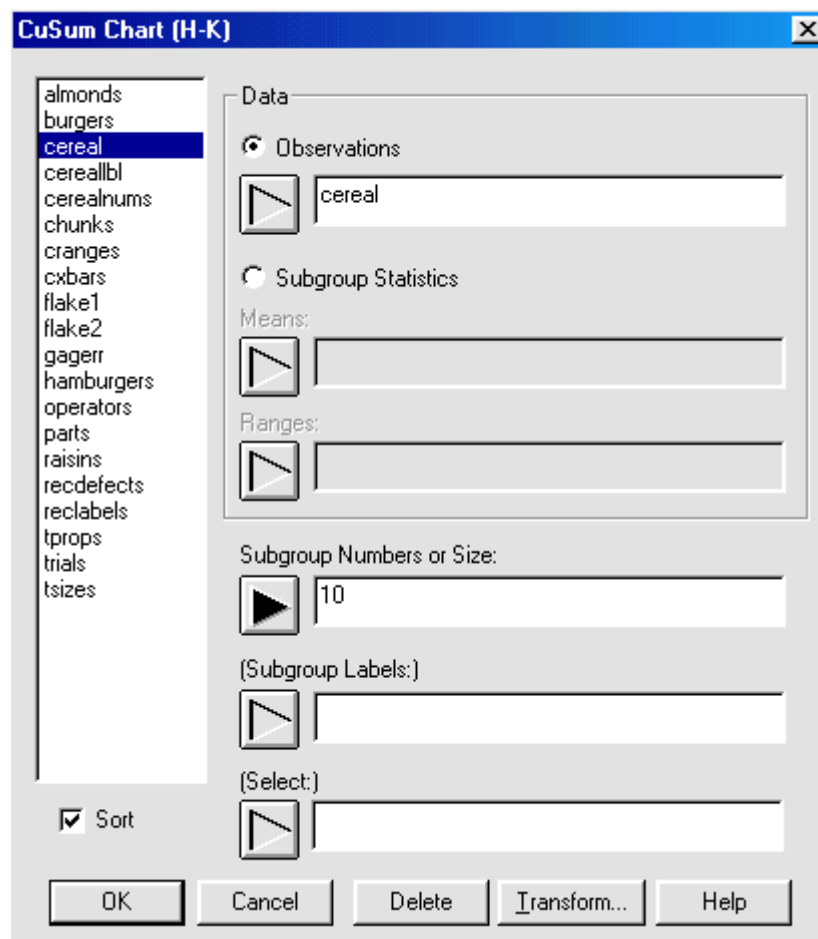

Figure 5-68. CuSum (H-K) Chart Analysis Dialog Box
1. Choose SPECIAL... QUALITY CONTROL... TIME-WEIGHTED CHARTS... CUSUM CHART (H-K)... from the Menu bar to display the Analysis dialog box shown in Figure 5-68.